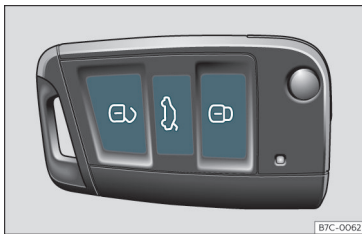

Fig. 69 Remote control key: buttons.
- Lock: press the  >>> Fig. 69 button.